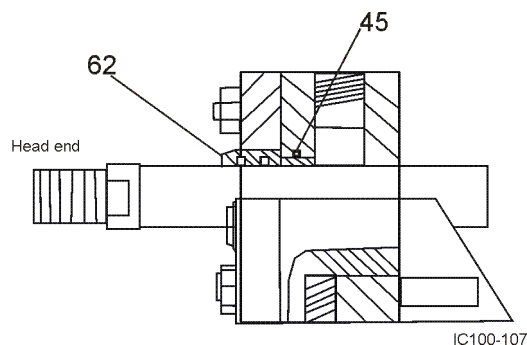

Figure 4 Head End O-ring Seal
10. Thread the gland into the retainer until it is seated firmly against the head. The gland-to-head O-ring, (See Figure 4 item 45) serves as a torque prevailing lock.